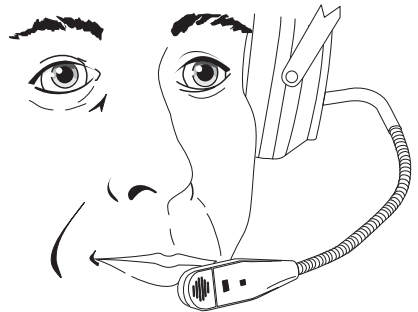

Figure 3
2. For best noise canceling, position the microphone as close to the mouth as possible and speak in a normal voice. (See figure 3)